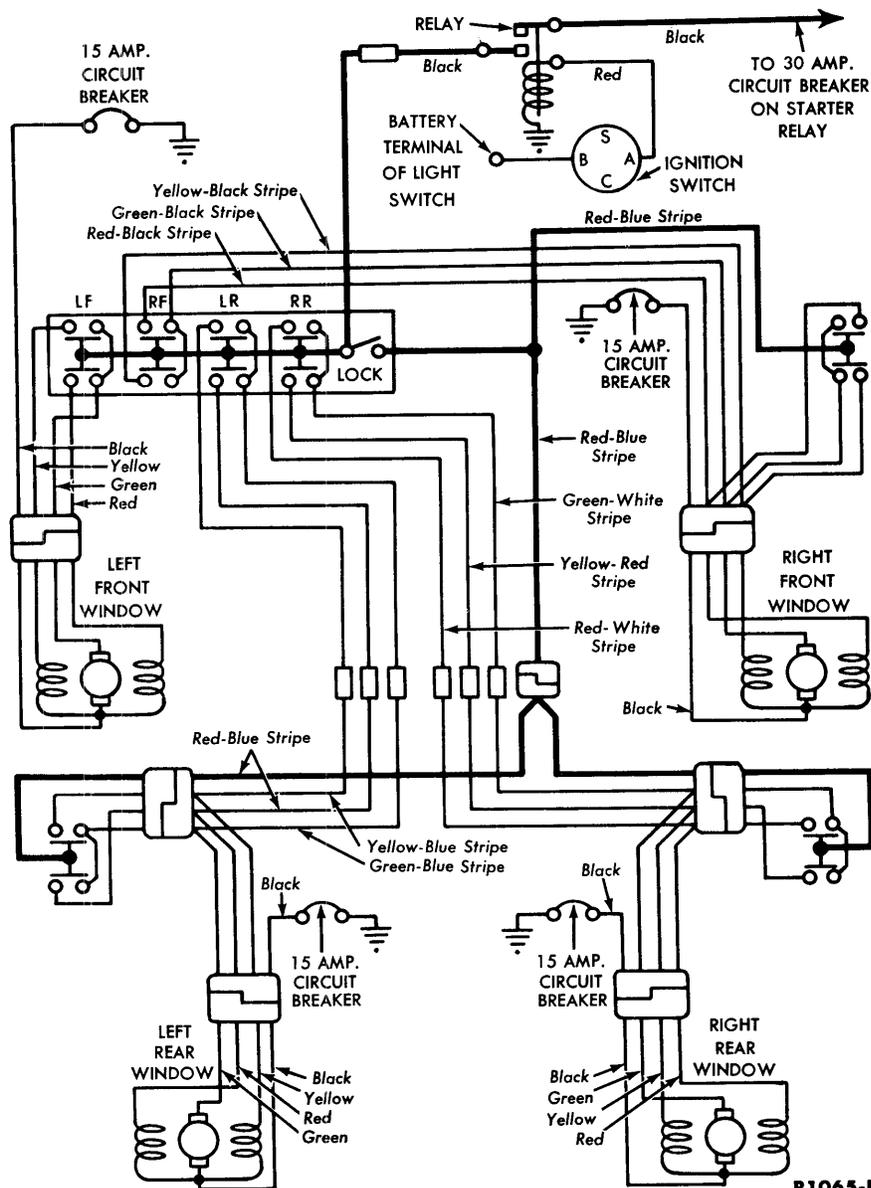

FIG. 7—Power Window Wiring Diagram
1. Connect a voltmeter or test light from a ground to the power window relay black wire connected to the 30-ampere circuit breaker (Fig. 7) If no voltage is available, replace the 30-ampere circuit breaker and/or replace the connecting black wire
3. Connect a voltmeter from a ground to the remaining terminal (black wire) of the power window relay (Fig. 7). If no voltage is available, replace the power window relay.